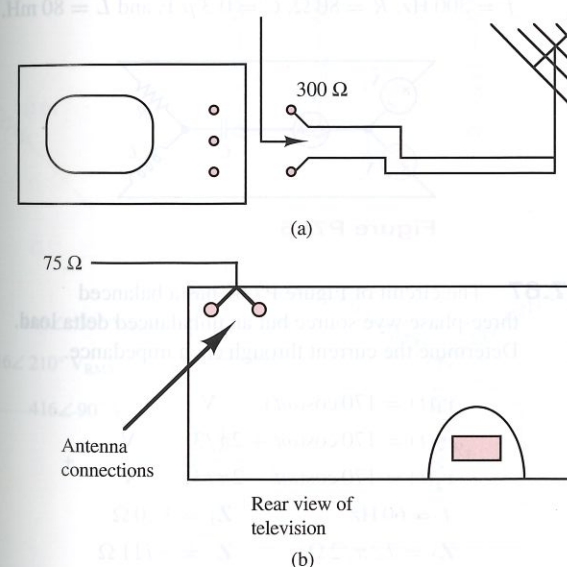

Figure P7.57
7.57 Before cable TV was generally available, TV networks broadcast their signals wirelessly. Large antennas were often installed atop residential homes to improve the reception of these signals. The impedance of the wire connecting the roof antenna to the TV set was typically 300Ω , as shown in Figure P7.57(a). However, a typical TV had a $75\text{-}\Omega$ impedance connection, as shown in Figure P7.57(b). To achieve maximum power transfer from the antenna to the television set, an ideal transformer was placed between the antenna and the TV, as shown in Figure P7.57(c). What is the turns ratio, $N = 1/n$, needed to obtain maximum power transfer?